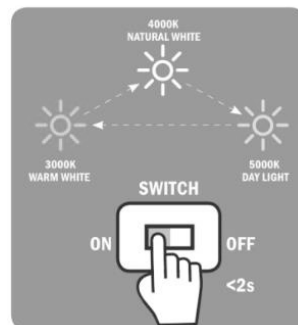

Fig 4
- To change the colour temperature of the fitting, switch the fitting on, off and on again within 2 seconds. Repeat this switching cycle until desired colour temperature has been achieved (see Fig 4)